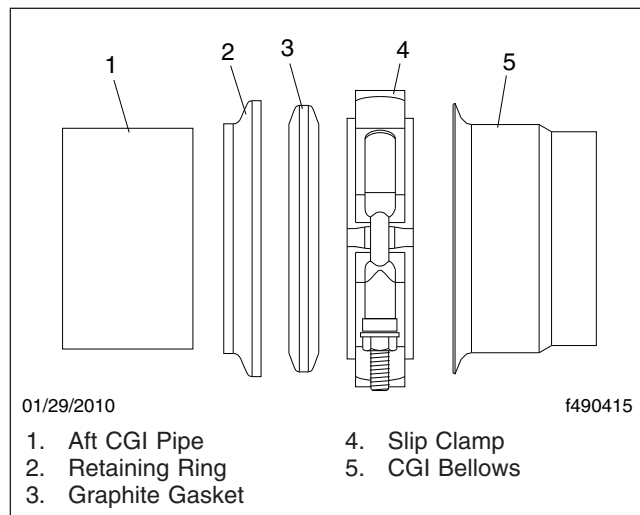

Fig. 10, Aft Facing Slip Clamp Installation
- 11. Slide the slip clamp, with the retaining ring and graphite gasket ring, on the aft CGI pipe. See Fig. 10 for proper installation.